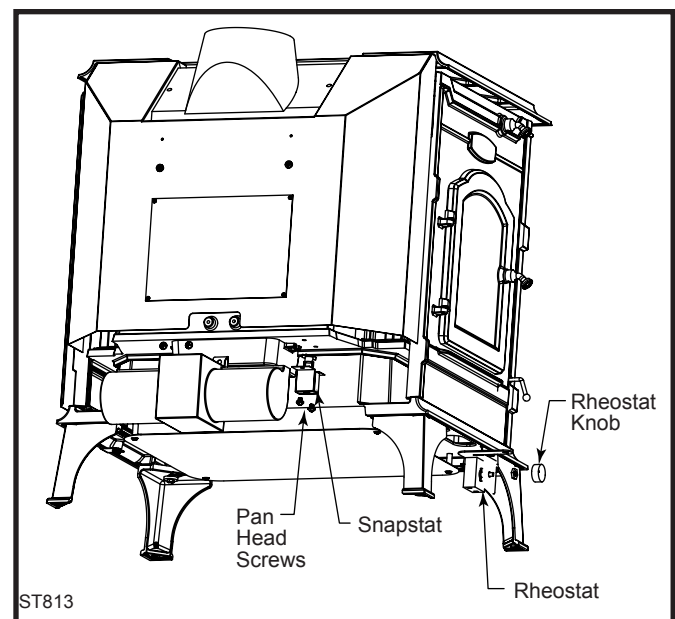

Fig. 23 Fan installation.
1. Secure the fan assembly to the inner back with two (2) 1/4-20 x 3/4" hex head screws and one (1) 1/4" star washer as shown in Figure 23.
2. Attach snapstat to the mounting holes on the underside of the bottom with two (2) 1/4-20 pan head screws.